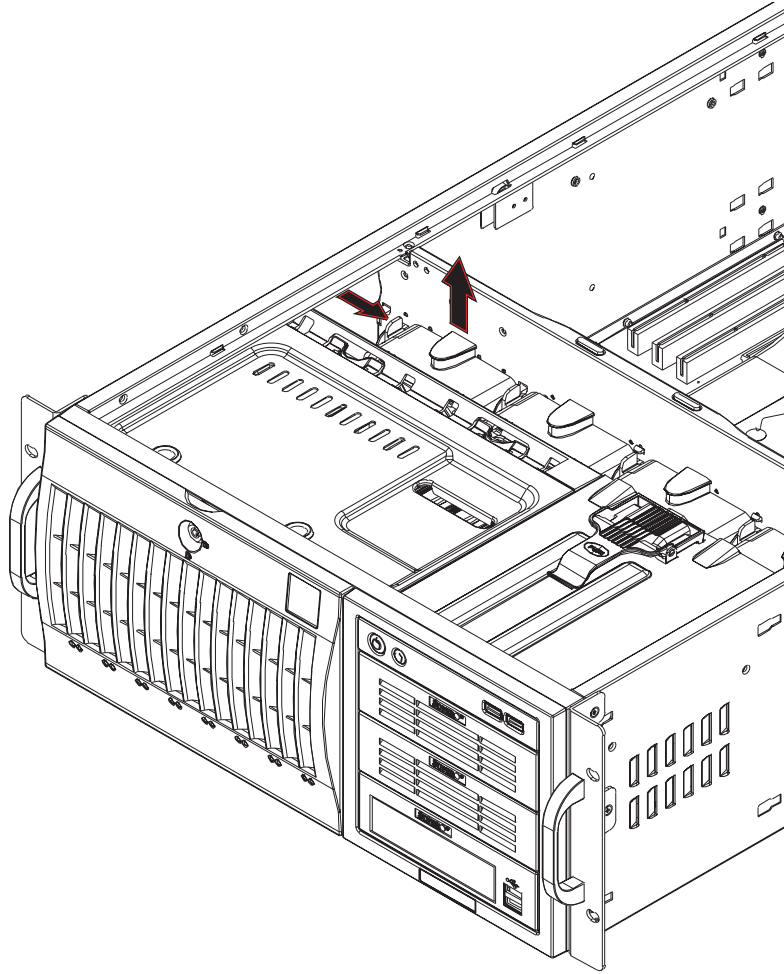

Figure 3-12. Removing/Replacing a System Fan
3. With the tab depressed, pull the unit straight out (see Figure 3-12). The wiring for these fans has been designed to detach automatically.